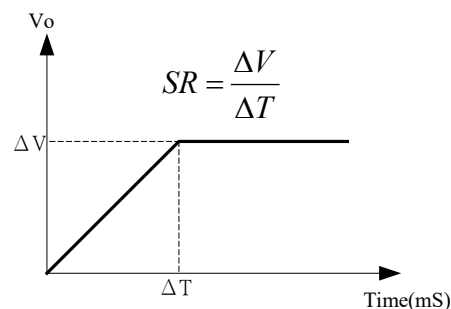

Figure 3-21
- Use the numeric ( ~ ) keys or “Rotary” () knob to set the value. Take example by 62150H-600, the output voltage slew rate of the DC Power Supply is set as Figure 3-21 shows. The maximum input Slew Rate is 10V/mS and the minimum is 0.001V/mS. The output of DC Power Supply will follow the slew rate to rise to the set output voltage while the fall slew rate is limited by load.